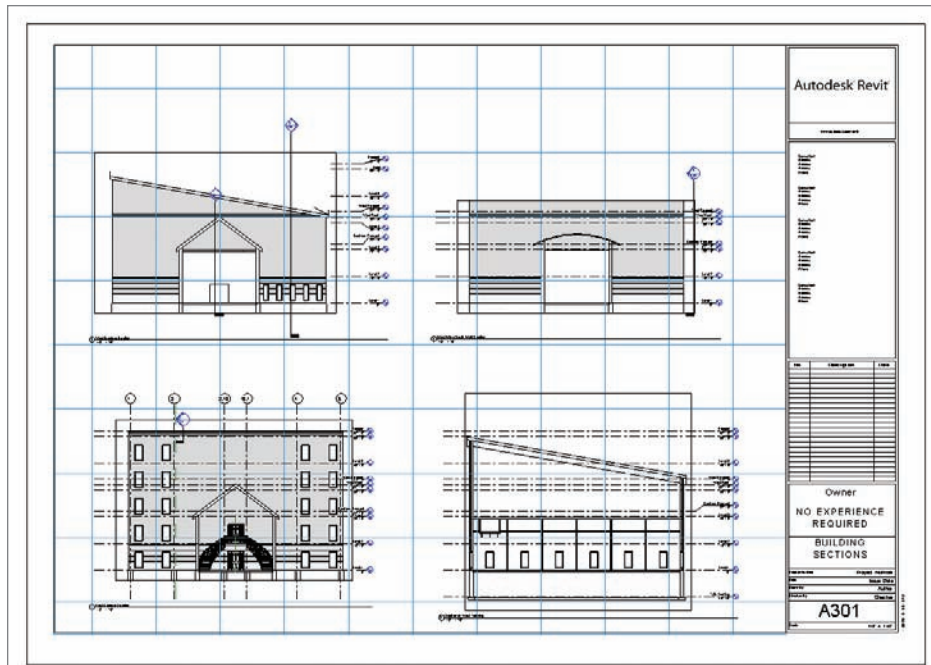

FIGURE 14.9 The completed sheet A301
11. Drag the section called East Wing South Wall Section to the right of the West Corridor Section and directly above the Section of West Training. Notice the alignment lines will allow you to accurately place the section. After you have these four sections in place, your sheet A301 should look like Figure 14.9.